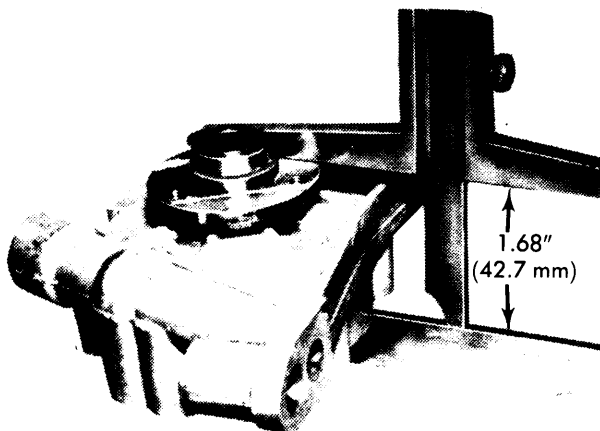

Fig. 11 Measuring Distance Between Flange and Rotor Face
4) Using suitable puller, remove drive flange from rotor shaft. Press drive flange on new rotor shaft to a distance of 1.68" (42.7 mm) between flange and rotor face (See Fig. 11).